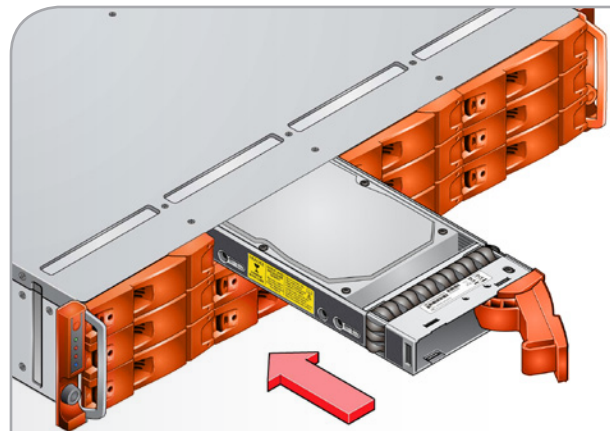

Fig. 47 - Inserting the Drive Carrier Module
3. Slide the Drive Carrier module, gently, all the way into the enclosure until it stops and seat it by pressing with your thumb on the left edge of the module (Fig. 47).